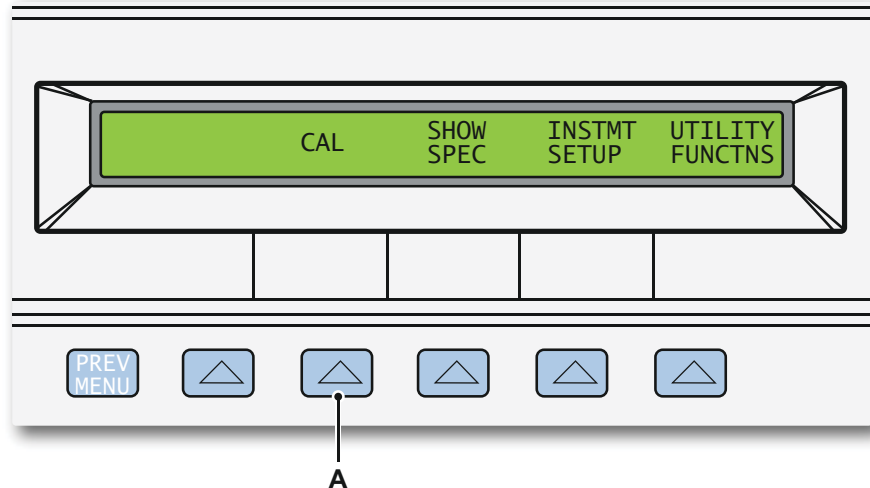

Figure E.14: Fluke 5522A Setup display
- 3 The Fluke 5522A setup menu opens (see Figure E.14). Select the **CAL** button.